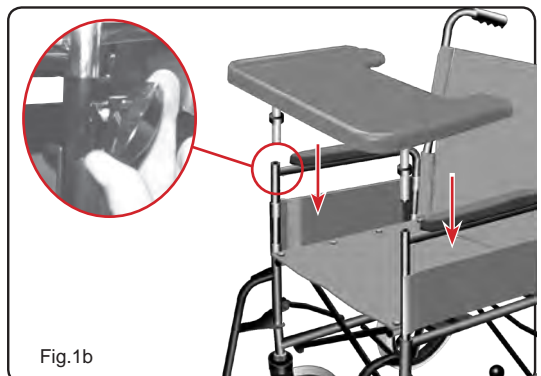

Fig.1b
- Loosen the four screws (See Fig.2b) and adjust the width of the Modular Tray System to suit the wheelchair. Slide Dog Legs down into armrest tubes (Fig.1b).
- Adjust Tray to required height, tighten height locking collars in place (Do Not overtighten) and secure doglegs into wheelchair frame with M6 Wing Knobs provided (Fig.1b).